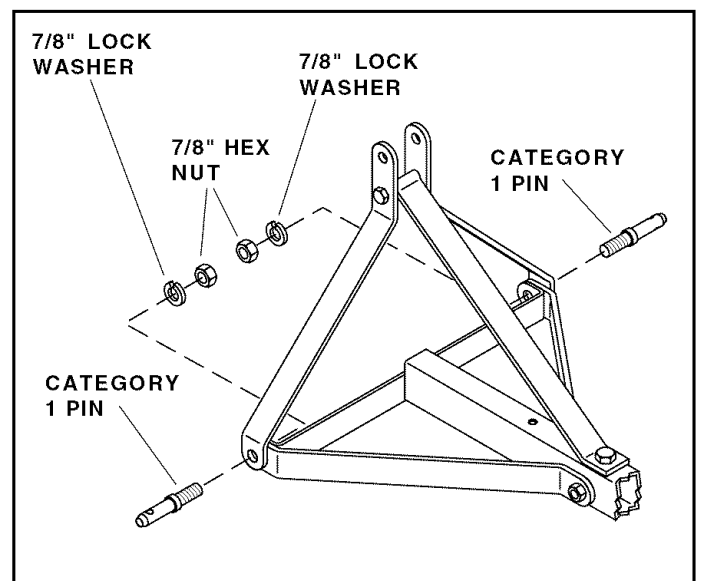

FIGURE 7
- Connect the lower end of each mast side and the front end of the each mast brace to the ends of the mast assembly's cross brace using two category 1 pins, two 7/8" lock washers, and two 7/8" hex nuts. See figure 7.